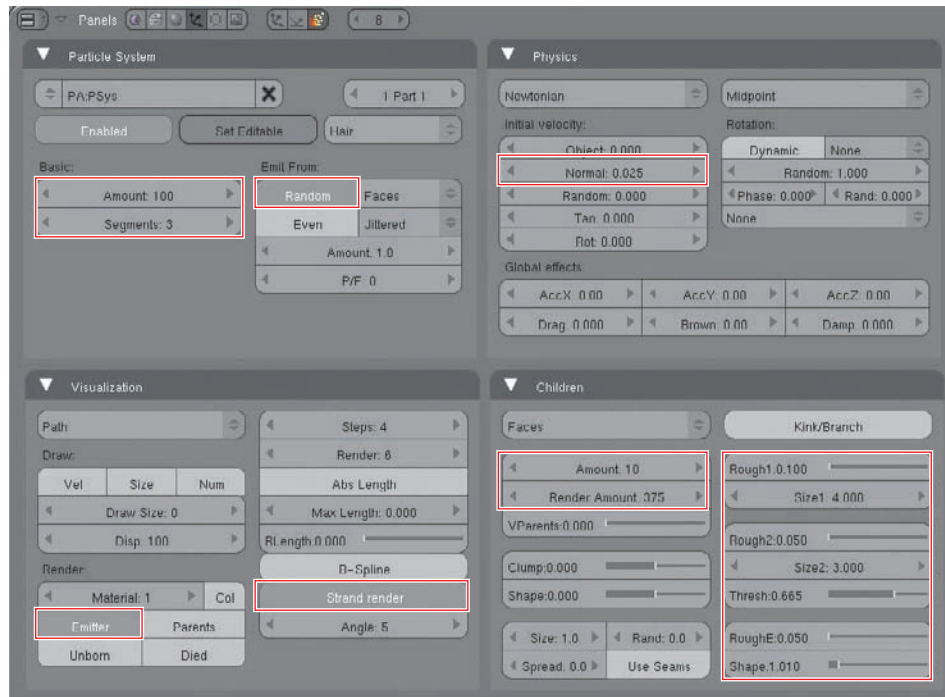

Figure 4.62 Grass particle settings
2. Add a Hair particle system with the values shown in Figure 4.62. It's not necessary to have a lot of particles for this, because you don't need a great deal of control over their movement. A hundred particles is fine, and the rest of the density can be filled in with children. Also, the default 10 segments is far more than is necessary for grass, which needs to bend only slightly and doesn't need a lot of control over that, so set the segments to 3. The Emit From value should be Random, which is common for all kinds of naturalistic particle simulations. An Initial Velocity in the Normal direction of about 0.025 is enough to give the grass some length. On the Visualization tab, set the Emitter to Render, so you can see the ground, and set Strand render, to avoid a long wait for rendering. Set child particles to emit from Faces on the Children tab, and set the Render Amount to 375, to get sufficient density to cover the ground nicely. Finally, give the particles some roughness. The Rough1 value, as I mentioned previously, is location dependent. Grass roughness is not entirely random; wind, water, and objects that compress the grass operate on more than one blade of grass at a time, so much of the roughness is shared among blades that are near each other. I've set the Rough1 value to 0.10 with Size 4; the Rough2 value at 0.05 with Size 3 and Thresh 0.665; and the RoughE value at 0.5 with Shape 1.01.